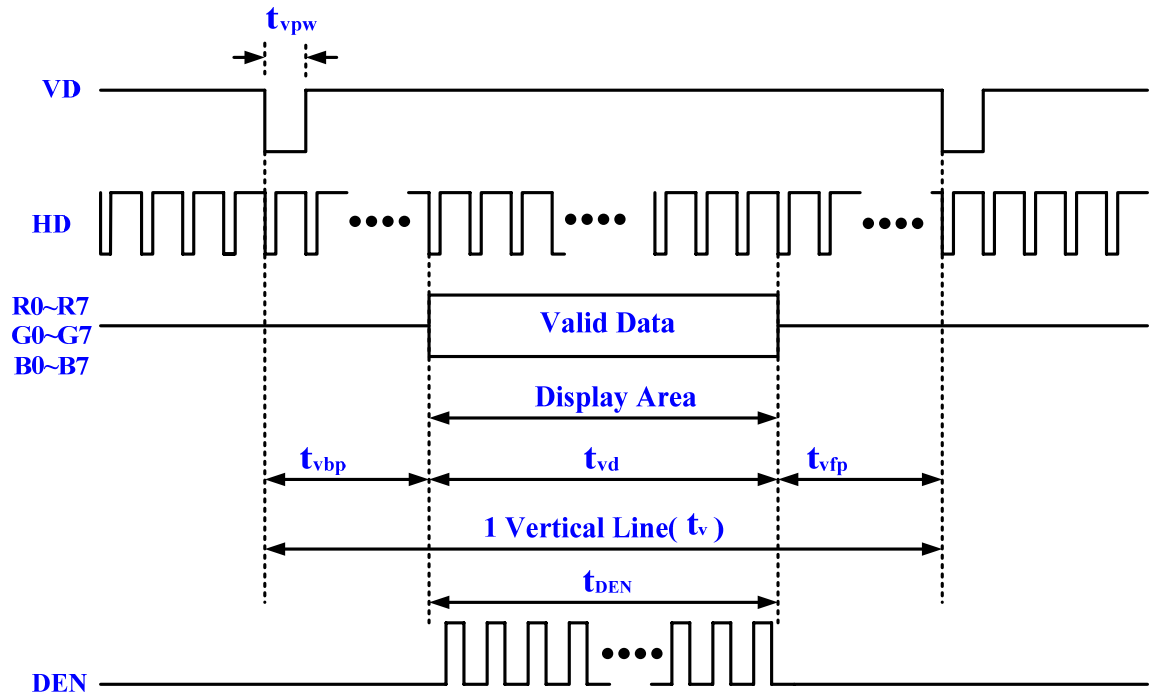

Figure 3.3 LCD vertical timing specification
The timing of the vertical synchronization (VD) is the same as shown in Figure 3.3, except that a vsync pulse signifies the end of one frame and the start of the next, and the data refers to the set of rows in the frame (horizontal timing). Table 3.2 and 3.3 show for different resolutions, the durations of time periods  $t_{hpw}$ ,  $t_{hbp}$ ,  $t_{hd}$ , and  $t_{hfp}$  for both horizontal and vertical timing. Finally, the timing specification of the synchronous signals is shown in the Table 3.4.